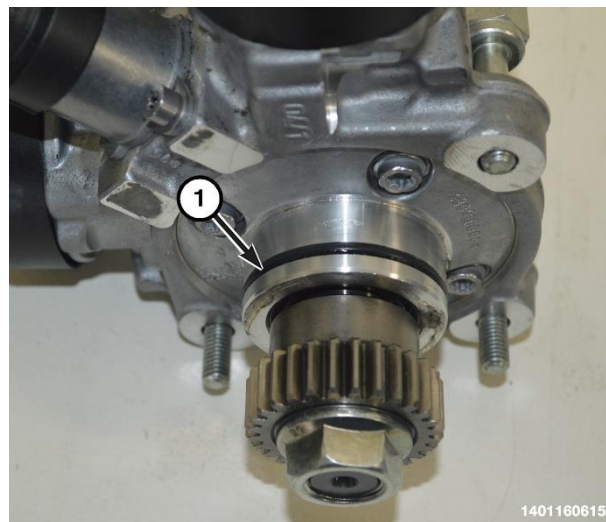

Figure 200 – O-ring
45. Install a **NEW** O-ring to the high-pressure fuel injection pump (Figure 200).